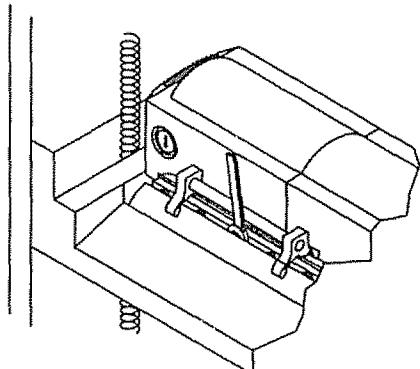

Figure 6 - Adjusting Blade Height
Refer to Figures 6, 8 and 9, pages 7, 14 and 16.
Refer to Figures 6 and 8, pages 7 and 14.
- Hold knife gauge assembly against cutterhead so contact point is over the blade (see Figure 6).
Refer to Figures 6, 7, 8 and 9, pages 7, 12, 14 and 16. Planer will operate best if kept in good condition and properly adjusted. Blades must be kept clean and sharpened to ensure quality of cut and efficiency of operation.
- Remove blades one at a time. Hold blade with knife gauge (see Figure 6). Loosen locking bolts and remove blades.